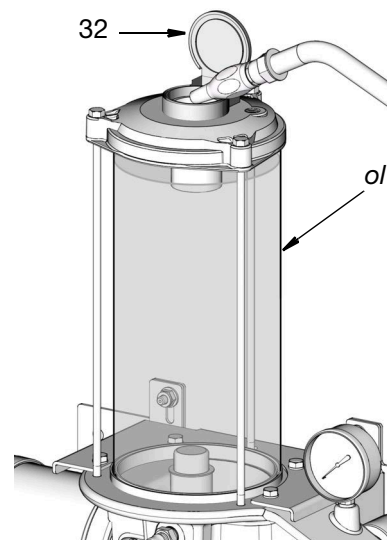

FIG. 7
2. Slowly add oil (*o/l*) until reservoir is filled to capacity (FIG. 7). Take care to not fill reservoir too quickly and overflow the reservoir capacity.
3. Close oil fill cap (32) to prevent contamination and spillage (FIG. 7).